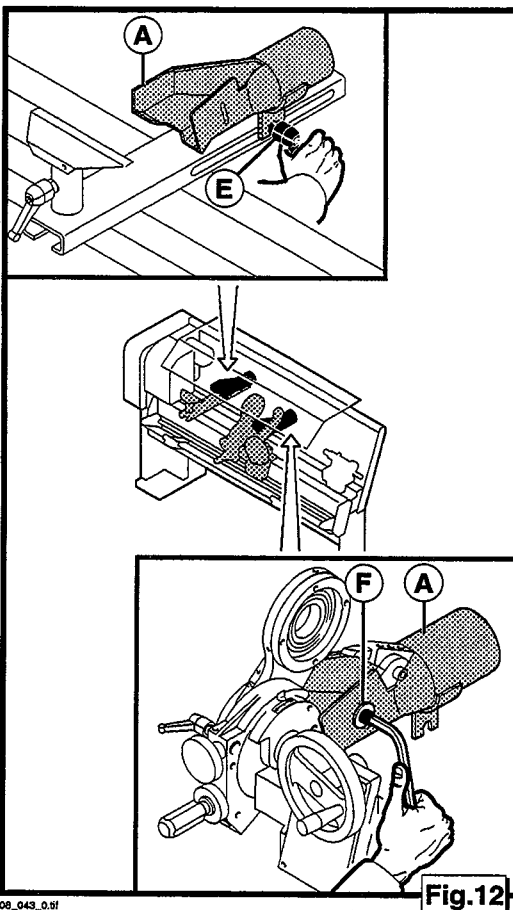

Fig.12
4.10. SPONAVSUG (fig.12)
4.10. SPÅNUTSUGNING (fig. 12)